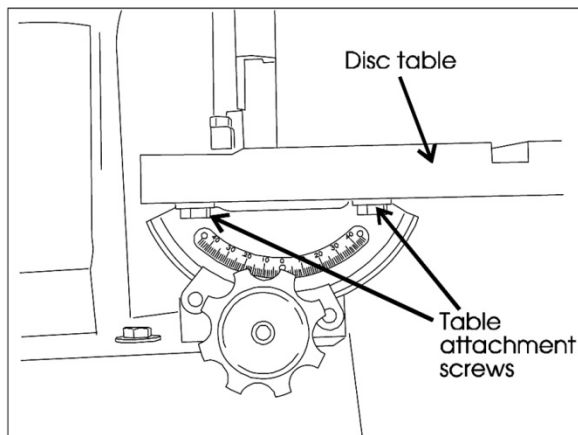

Figure 17: Table attachment screws – loosen to adjust miter groove parallelism.
5. Adjust the table by loosening the four attachment screws under the table, then move the table until the distance between the miter slot and the disc is equal on both sides (See Figure 17).